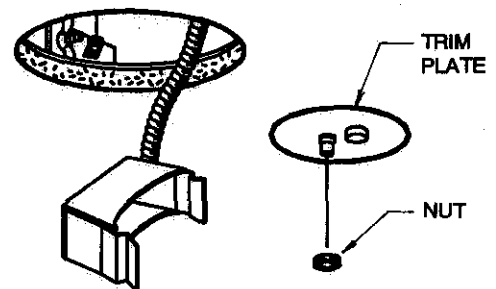

FIG. 10
6. Fasten TRIM PLATE to SWITCH BOX with NUT provided (Fig. 10).